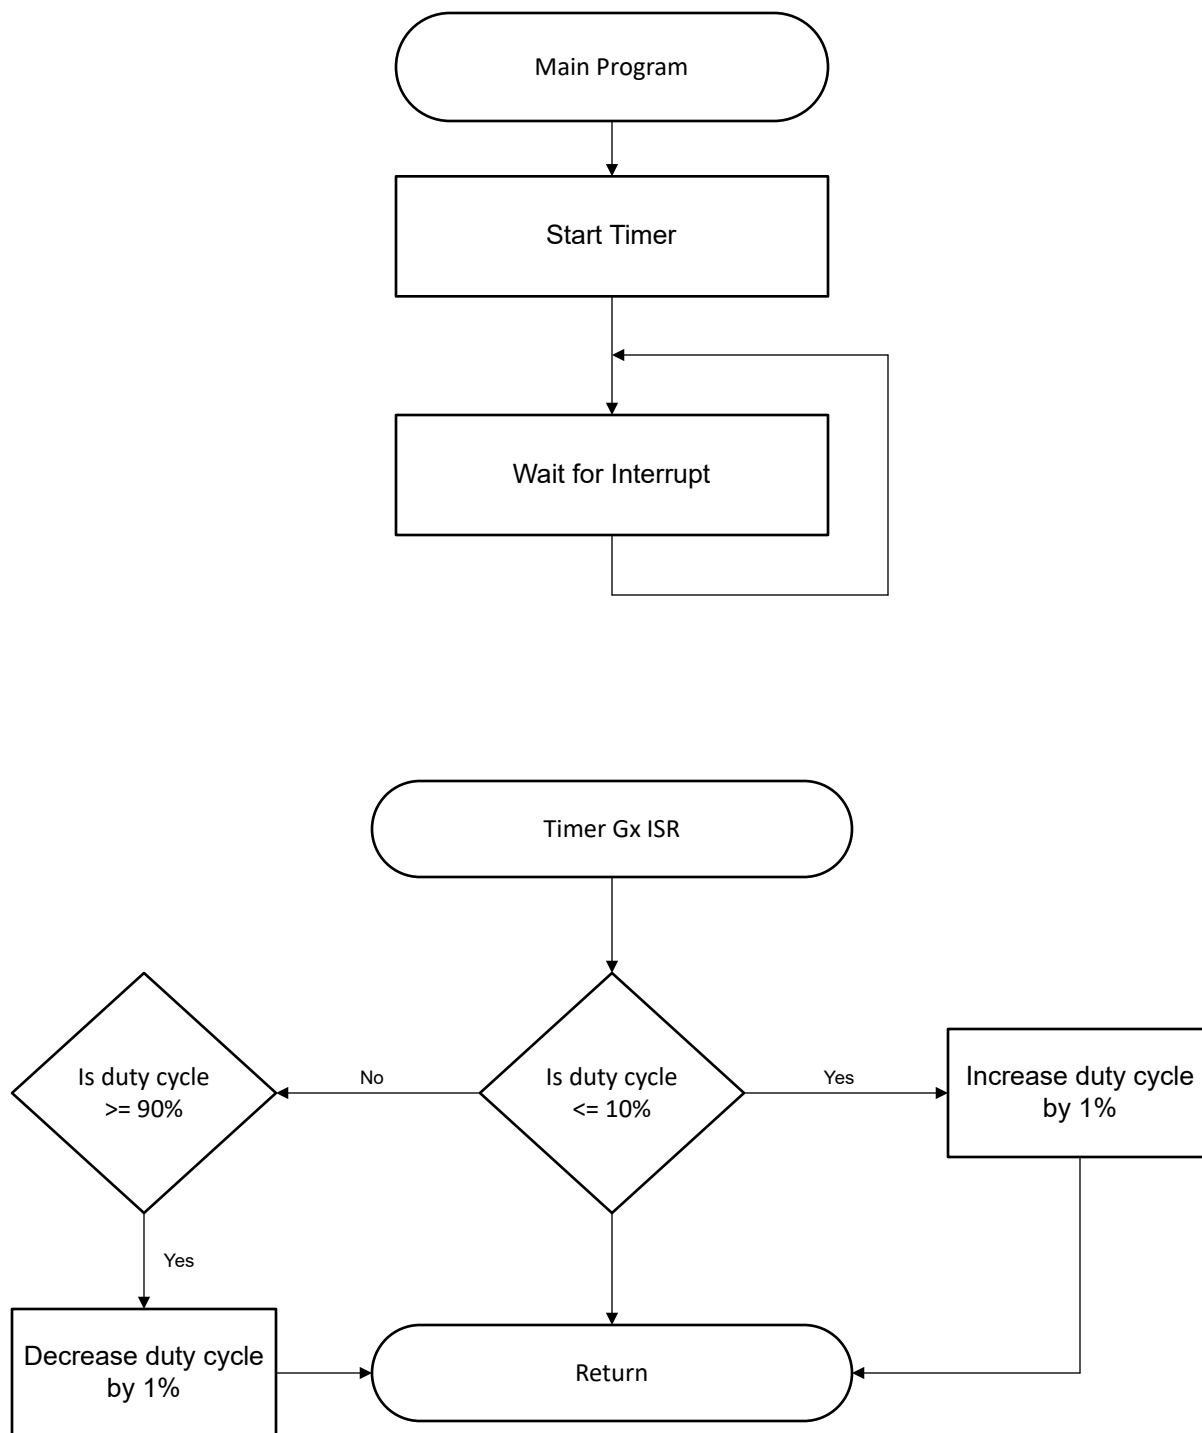

Figure 1-2. Application Software Flowchart
4. Write application code. The remaining piece of this application is to change the PWM duty cycle, which is accomplished in software. See Figure 1-2 for an overview of the application or browse the code directly.
Figure 1-2 shows the operations performed by application to change the duty cycle of the PWM output.